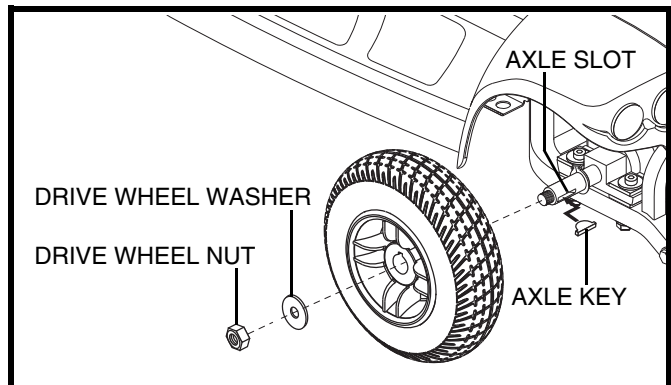

Figure 30. Wheel Replacement
3. Remove the drive wheel nut and washer from the axle. **See figure 30.**